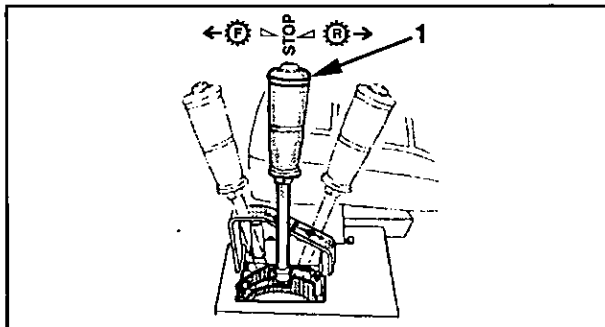

Figure 3-5 Propulsion Control Lever
The propulsion control lever (1, Figure 3-5) is used to select the compactor's direction and travel speed. It also controls service braking. The control has three (3) positions: Forward, STOP, and Reverse, with variable speed ranges in either direction